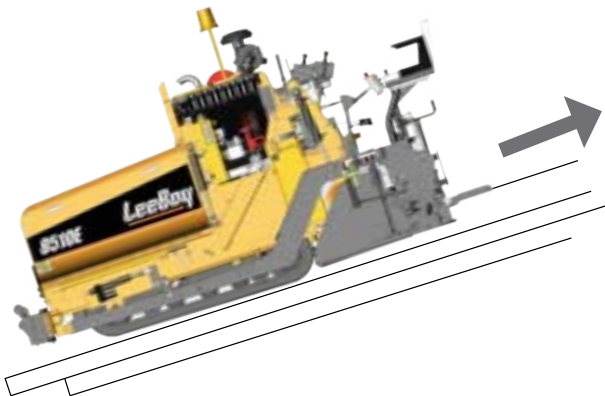

Figure 4-55. Correct Loading and Unloading Position
6. Move paver forward down the ramp as shown on Figure 4-55.